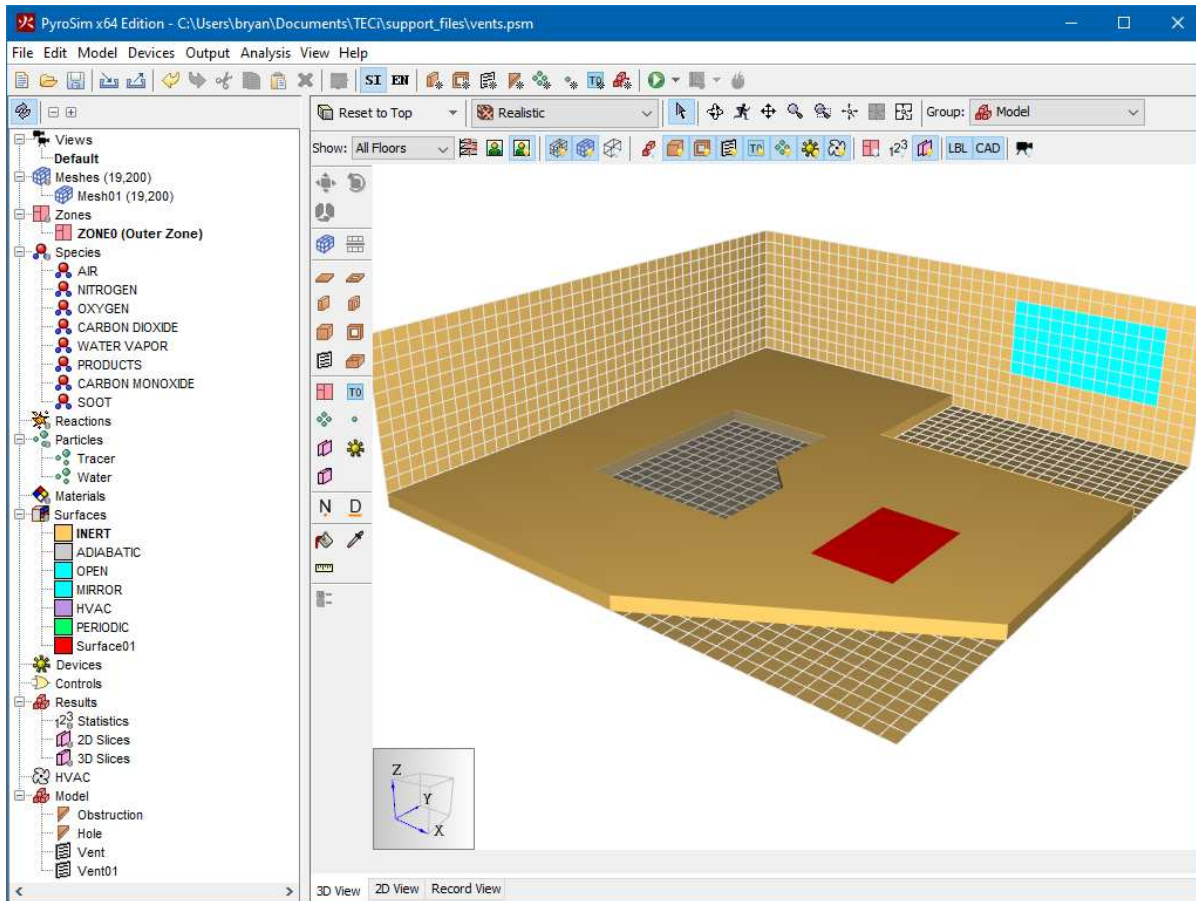

Figure 47. Vents on a mesh boundary and obstruction
**Vents** have general usage in FDS to describe a 2D rectangular patch on the surface of a **solid** obstruction or on a mesh boundary as shown in Figure 47. A **vent** may have a different surface applied to it than the rest of the obstruction to which it is attached.